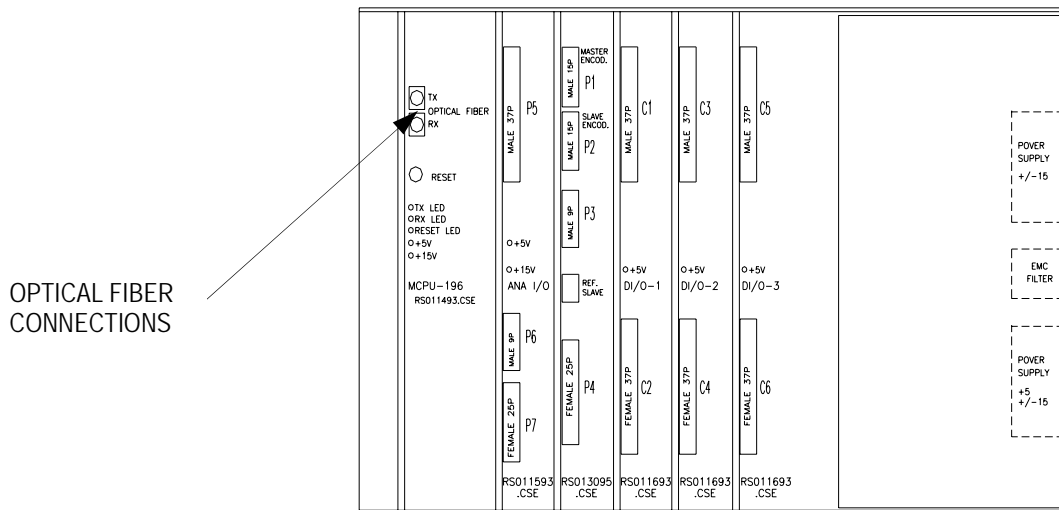

fig. 2.1
- ◆ The optical fiber serial cable must be connected to the PC and the microprocessor board (fig.2.1)